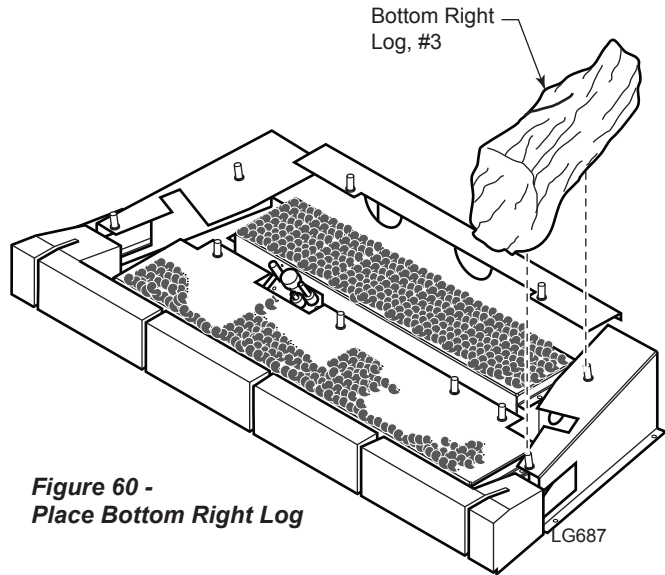

Figure 60 - Place Bottom Right Log
- Place bottom right log (#3) on two pins against right side of firebox. *Figure 60*